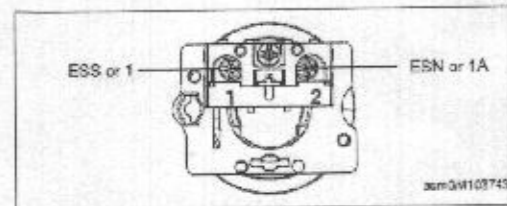

Figure 2 E-Stop Switch Connections 1 and 2
- 3.3 Connect the fork terminals to the stop switch contacts 1 and 2. See Figure 2.